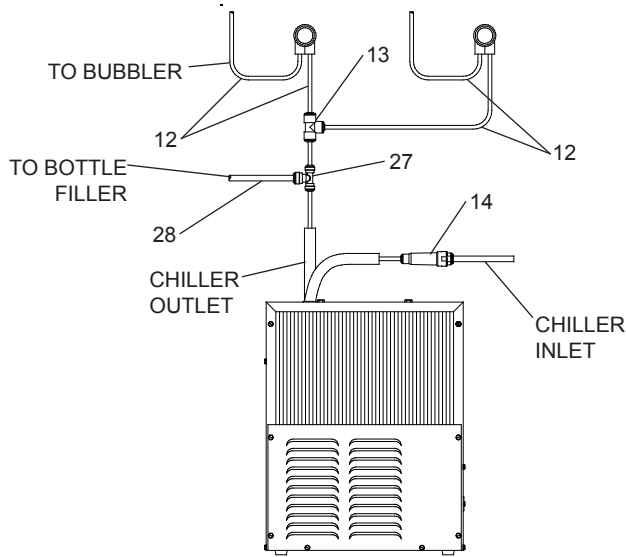

Figure 2 - HTHB-OVLSER-I Tube Routing
- 3a. **(For HTHB-OVLSER-I)** Install strainer on the input tube to the chiller (Fig 2).